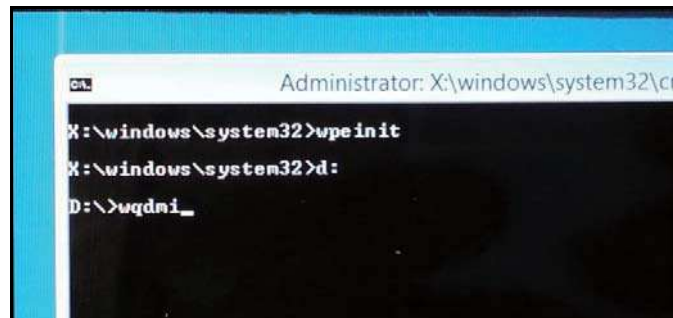

Figure 2-24. WINPE Mode
11. Type `wqdm` and press **Enter** (Figure 2-24). To execute a specific function, input the command and the associated parameter as shown in Figure 2-25.